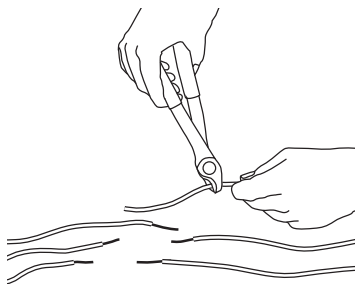

Fig. 4 Cutting and stripping the motor leads
2. Cut the motor leads off in a staggered manner. Cut the ends of the drop cable so that the ends match up with the motor leads; see fig. 4. On single-phase motors, be sure to match the colors.